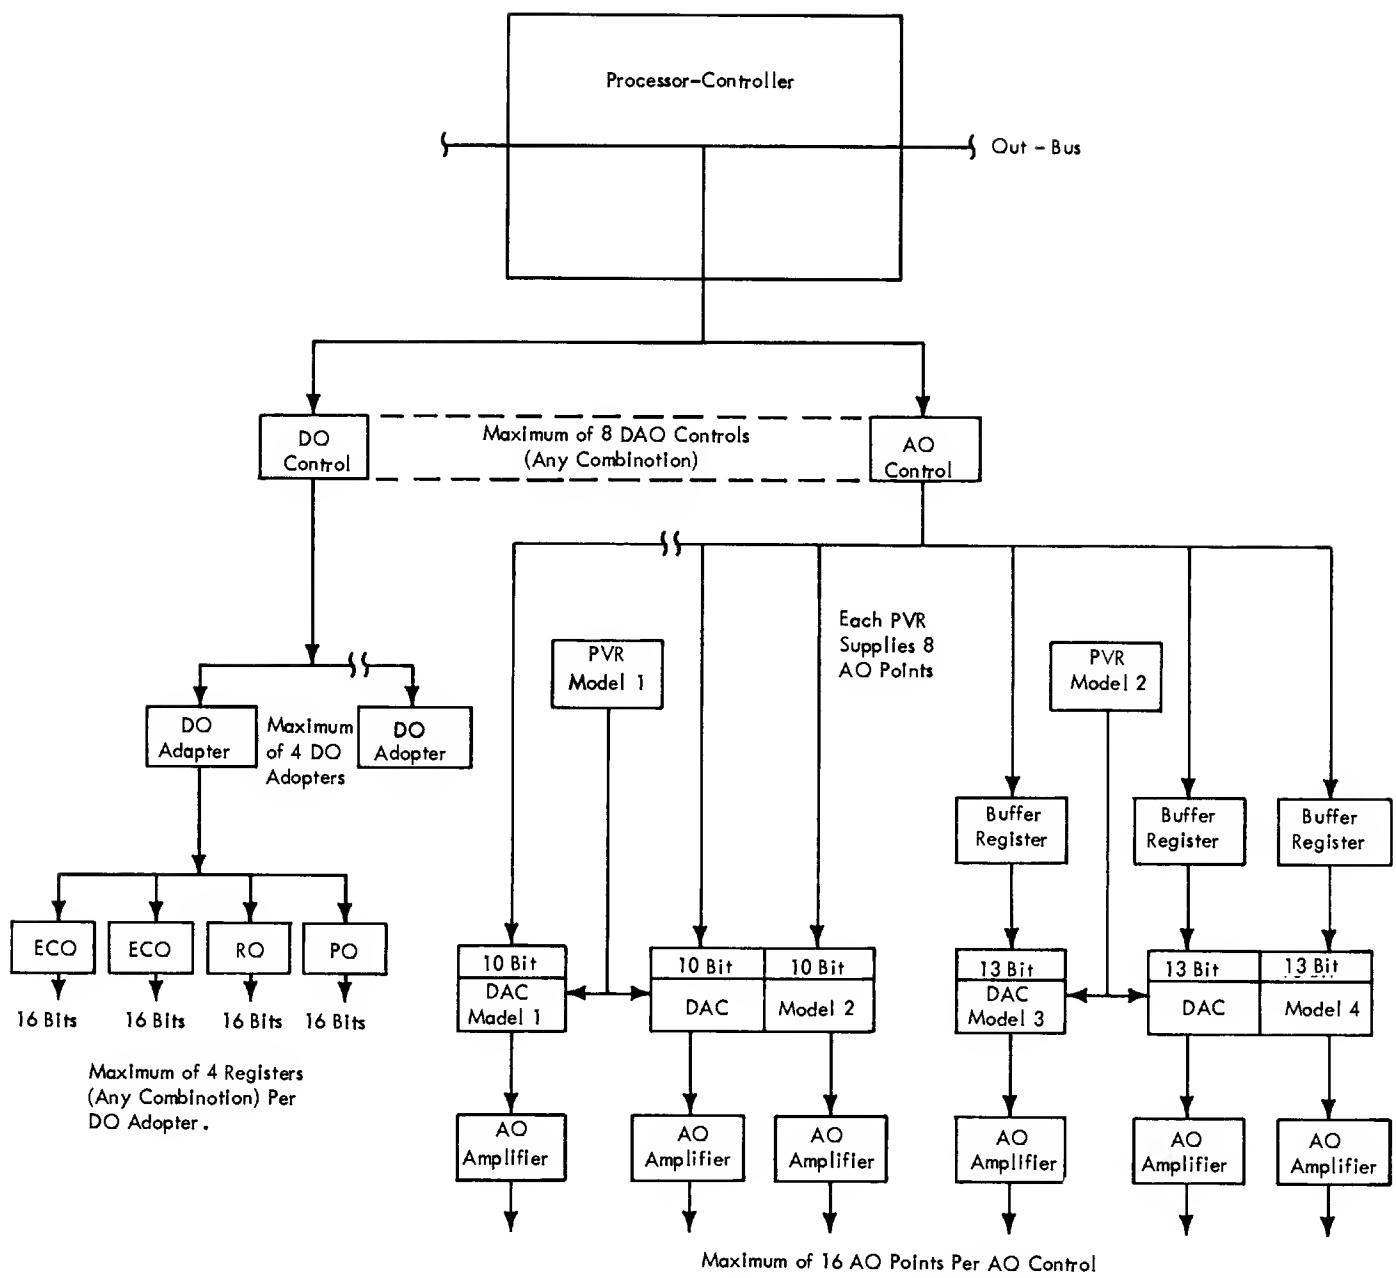

Figure 35. Schematic of Digital and Analog Output Features
The DAO features are organized as shown in Figure 35 and described below:
- a. Each Digital Output Control can accommodate 16 output registers. Note in Figure 35 that a Digital Output Adapter is required for each 4 output registers. (The Digital Output features may be installed in either the P-C or the 1826 Data Adapter Unit.)